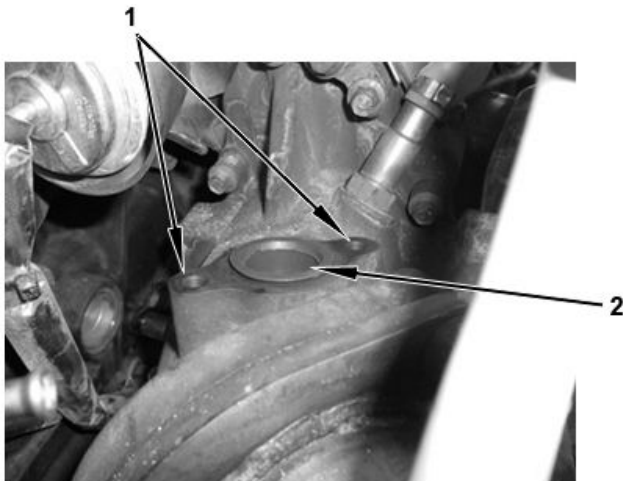

Figure 11. Thermal Management Valve Housing Port.
2. HCl bolt (2)
14. Discard HCl bolts and gasket (Figure 11, Item 1).
15. Place cap (Figure 11, Item 2) on thermal management valve housing port.